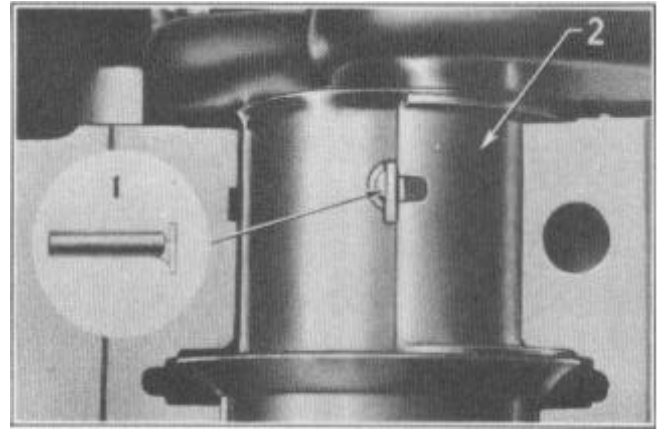

FIGURE 16
3. Install Upper Bearing Shell Removing Tool KMO-734 in oil hole of crankshaft and turning crankshaft in usual rotation, the hinged head of the pin will engage the upper half of the bearing and turn it out with the rotating action of the crankshaft, Figure 16.
1. After the proper bearing sizes have been selected, start the upper shells in place, and with KMO-734 Bearing Shell Remover and Replacer Tool entered in oil hole of crankshaft and with hinged head of Replacer against bearing end, rotate crankshaft, pulling the bearing into position, Figure 16.